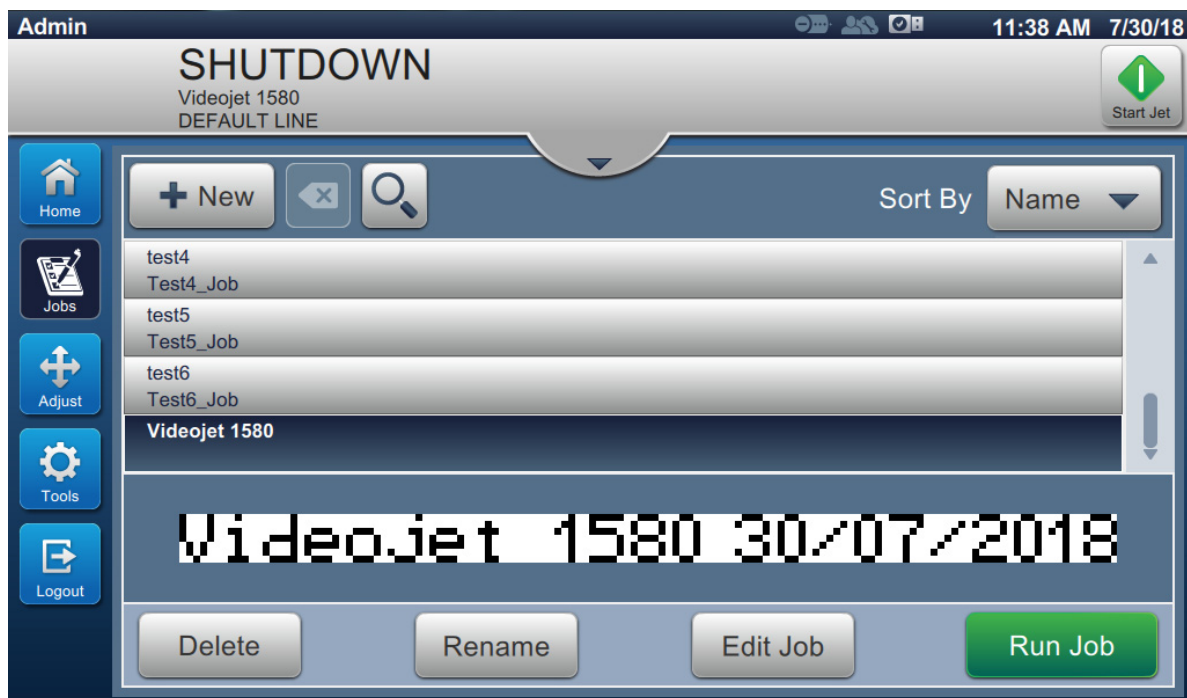

Figure 4-3: Job Selection
4. The user is logged on the user access level and the user level is displayed on the top of the screen (see Figure 4-3).
2. Select the required job from the list and touch the  button as shown in Figure 4-3. The job preview will be displayed.